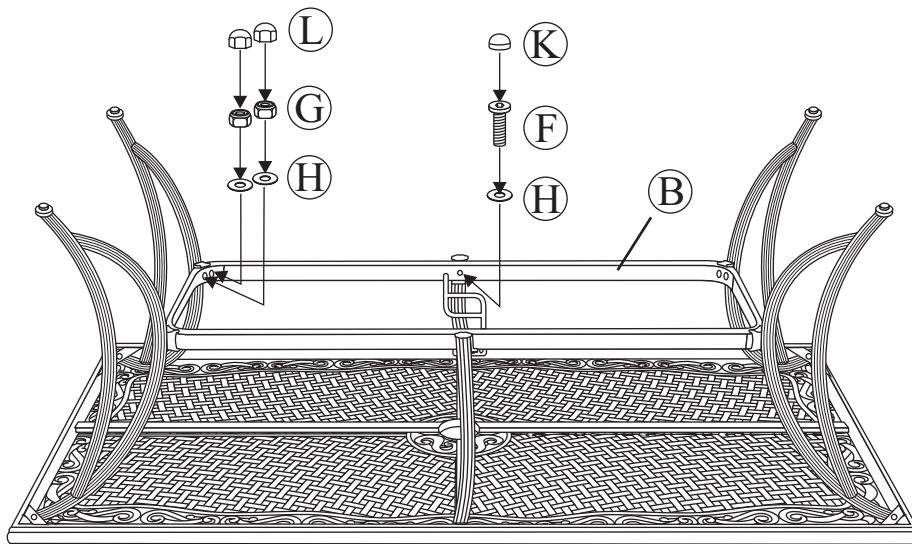

Fig.2
Attach a leg to the leg connector bracket by carefully guiding the bolts already in place on the table legs (each leg has two bolts) through the holes in the leg connector bracket. Add a washer and a nut to the end of each bolt as shown in Fig. 2. **Hand tighten only.** Repeat on the other three legs.
- 2 Attach a leg to the leg connector bracket by carefully guiding the bolts already in place on the table legs (each leg has two bolts) through the holes in the leg connector bracket. Add a washer and a nut to the end of each bolt as shown in **Fig. 2**. **Hand tighten only**. Repeat on the other three legs. Attach topside support to leg connector bracket by using a 1/4"x30 mm bolt and a washer as shown in **Fig. 2**. **Hand tighten only**. Repeat for the other topside support.